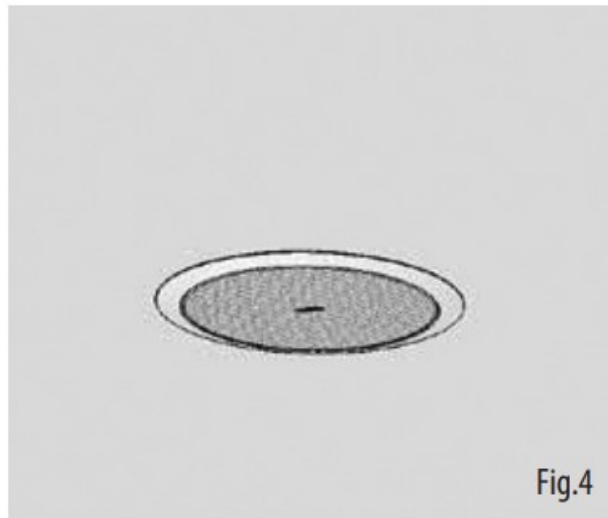

Fig.4
7. Insert grille by pushing it onto the speaker. (Fig.4)